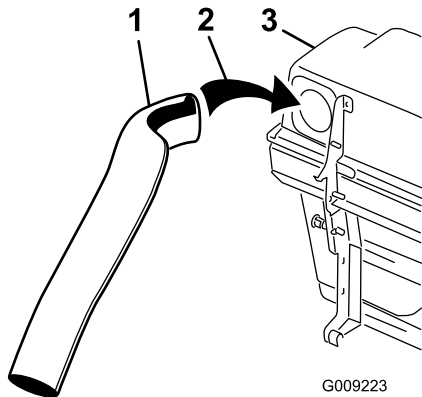

Figure 19
4. Install the upper tube into the bagger opening and pull it back out so that the rubber seal is protruding out (Figure 19).